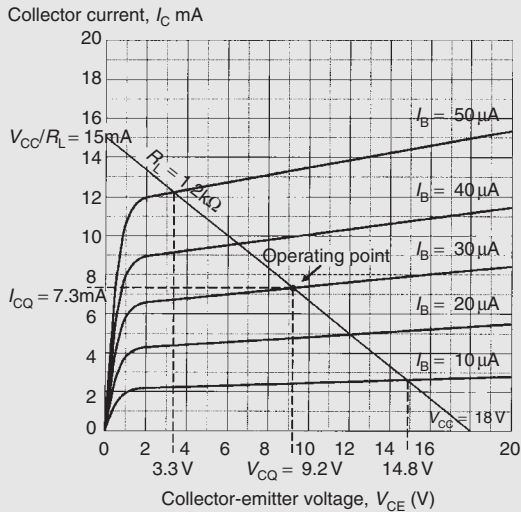

Figure 12.25
**Problem 11.** The characteristic curves shown in Fig. 12.25 relate to a transistor operating in common-emitter mode. If the transistor is operated with  $I_B = 30\mu A$ , a load resistor of  $1.2k\Omega$  and an
(a) First we need to construct the load line on Fig. 12.25. The two ends of the load line will correspond to  $V_{CC}$ , the 18 V supply, on the collector-emitter voltage axis and  $18 \text{ V} / 1.2 \text{ k}\Omega$  or 15 mA on the collector current axis.
(b) Next we can determine the maximum and minimum values of collector-emitter voltage by locating the appropriate intercept points on Fig. 12.25. Note that the maximum and minimum values of base current will be  $(30 \mu\text{A} + 20 \mu\text{A}) = 50 \mu\text{A}$  on positive peaks of the signal and  $(30 \mu\text{A} - 20 \mu\text{A}) = 10 \mu\text{A}$  on negative peaks of the signal. The maximum and minimum values of  $V_{CE}$  are, respectively, 14.8 V and 3.3 V. Hence,